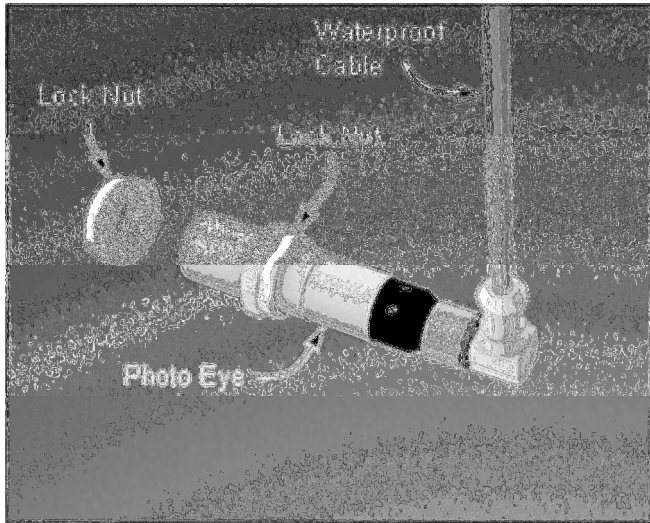

Fig. 13
2. Loosen the screw on the receiver socket bracket and adjust the photo eye until the yellow LED illuminates. (See Figure 13)